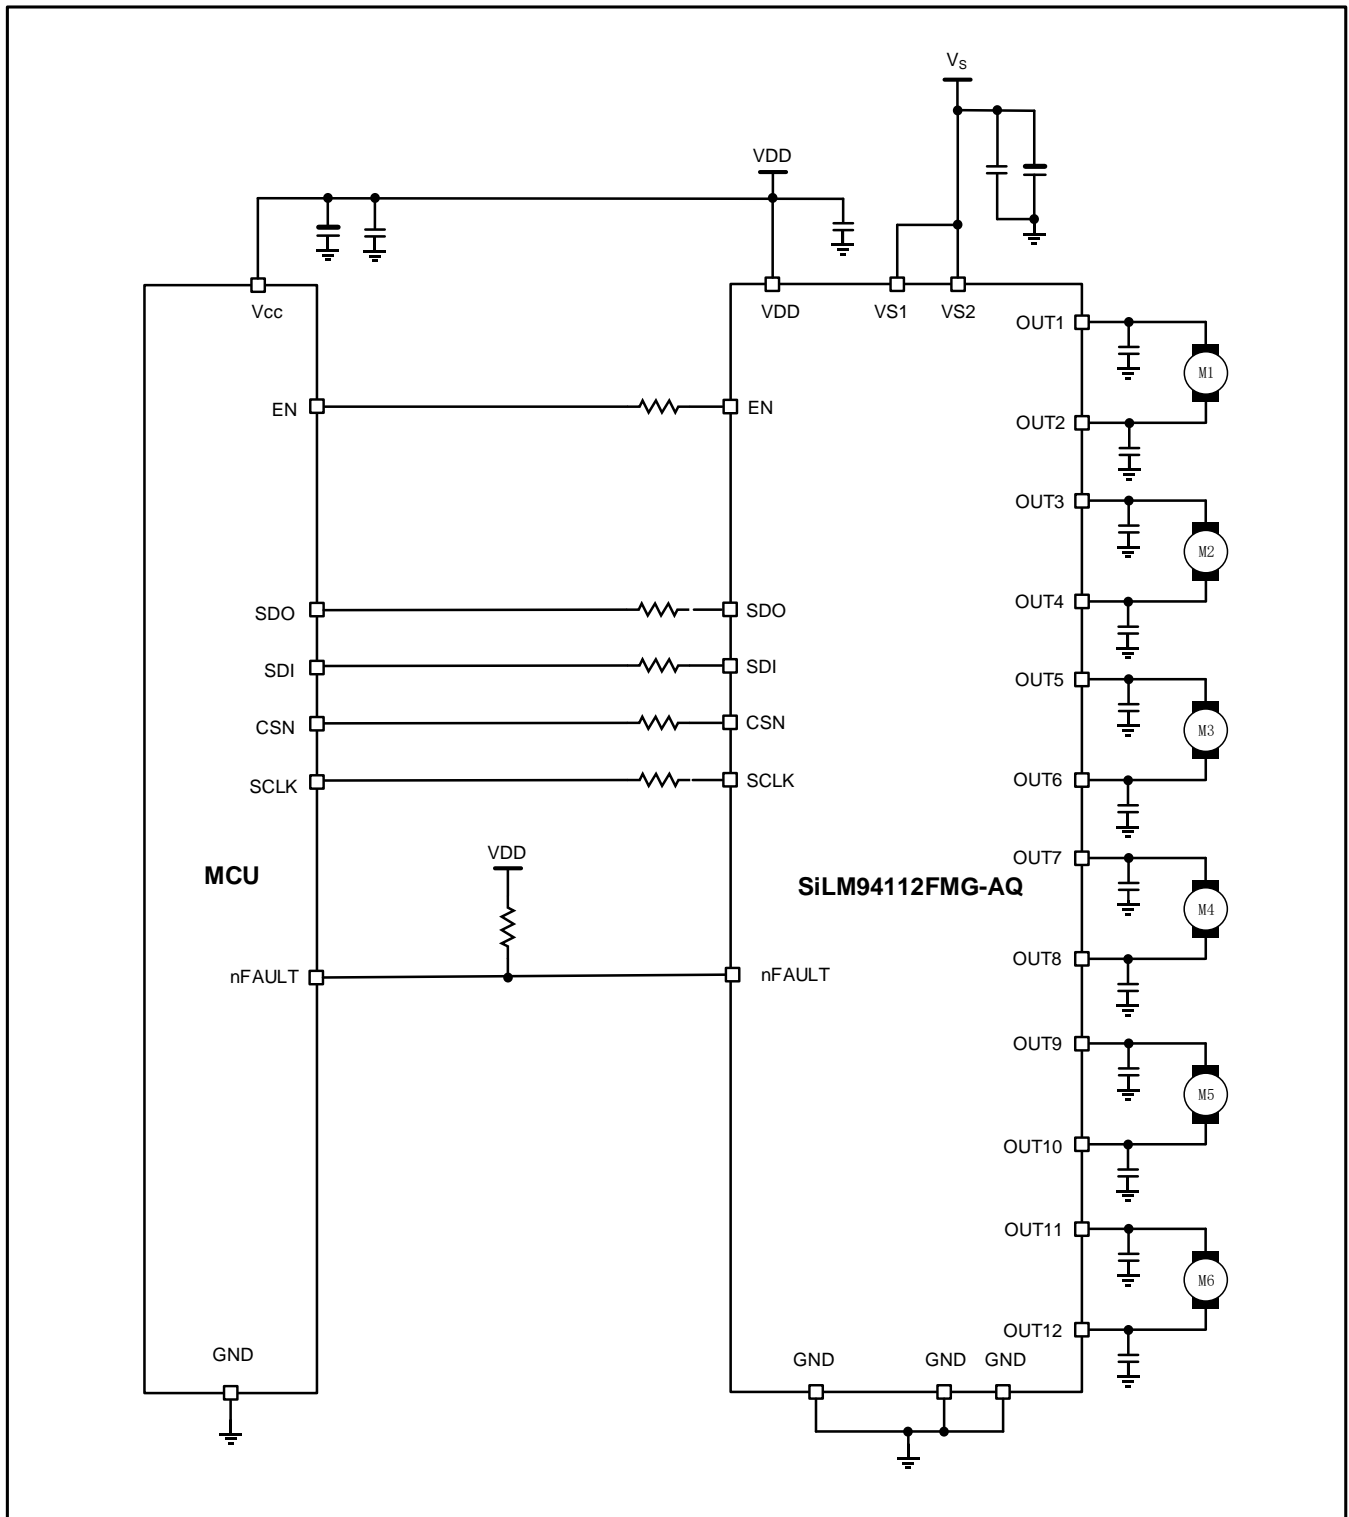
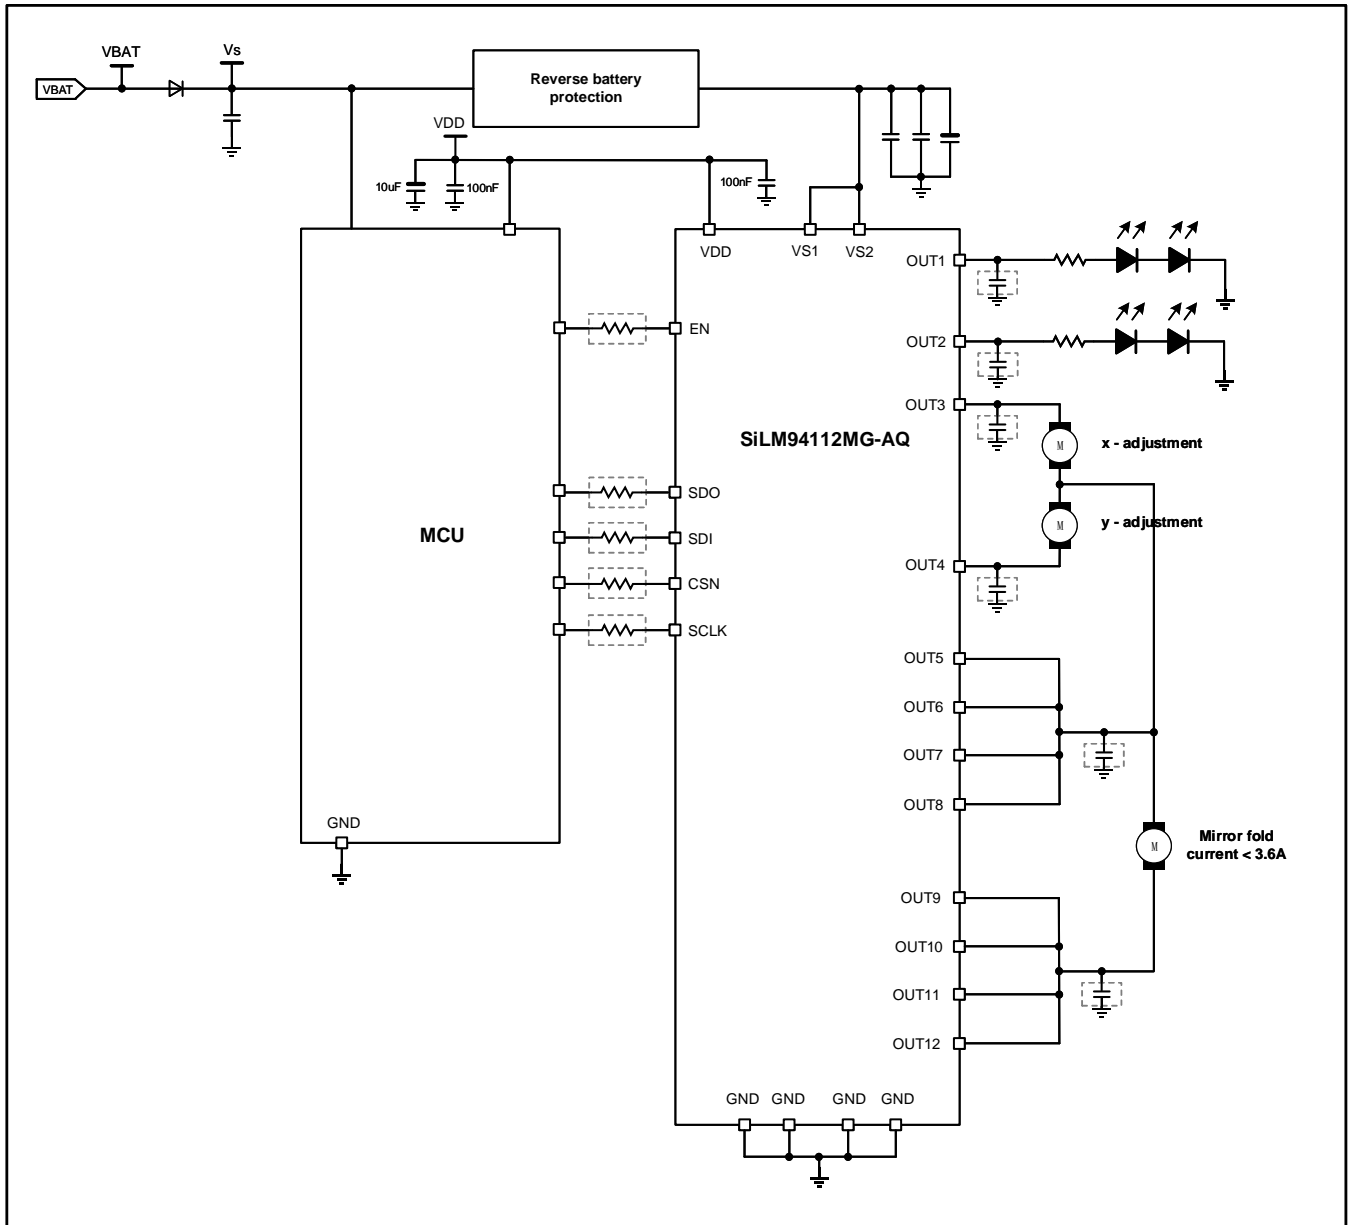

Figure 25. Application example for DC-motor loads
Figure 26. Application example for side mirror control
- One 16-bit SPI command consists of two bytes (see Figure 25 and Figure 26), i.e.
Page 56	Update Figure 26